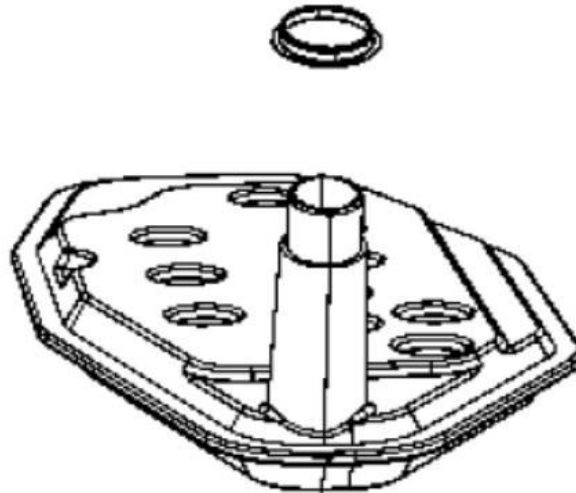

Fig. 6 Sump Oil Filter and O-ring
37. Install a new primary sump oil filter seal (Fig. 6) (p/n 05013470AD) in the oil pump inlet bore and verify that the seal flange is flush against the pump casting around its entire circumference (seal should not be cocked in any way).